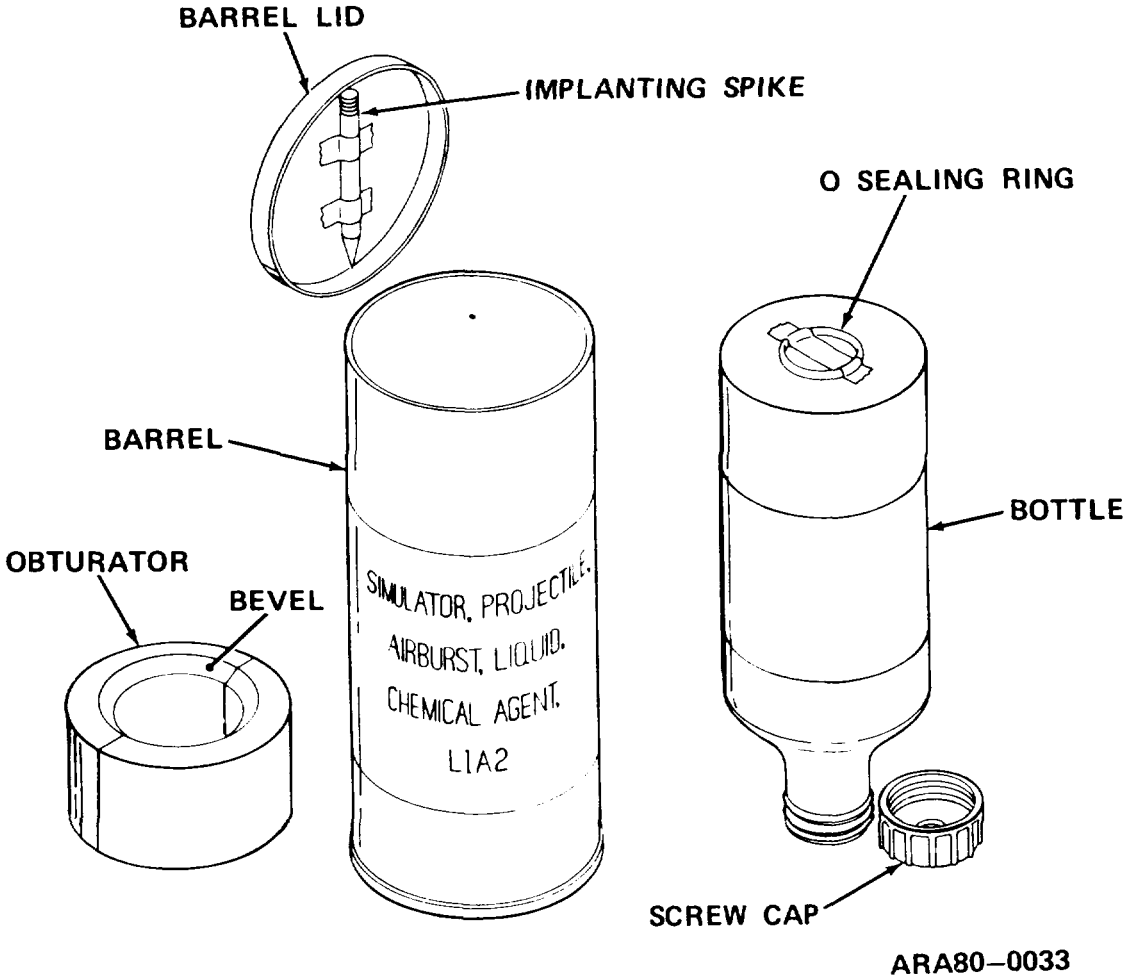
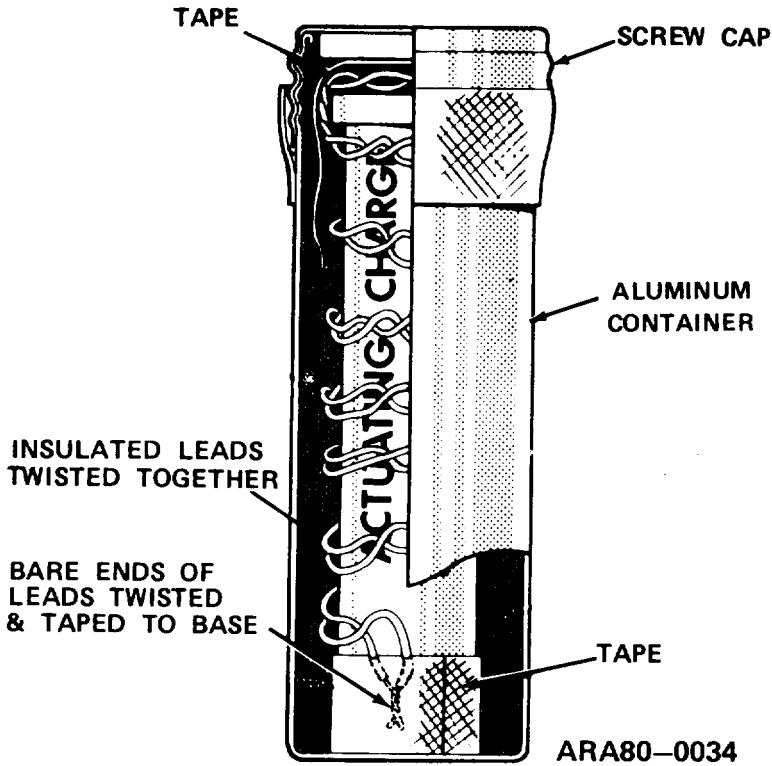
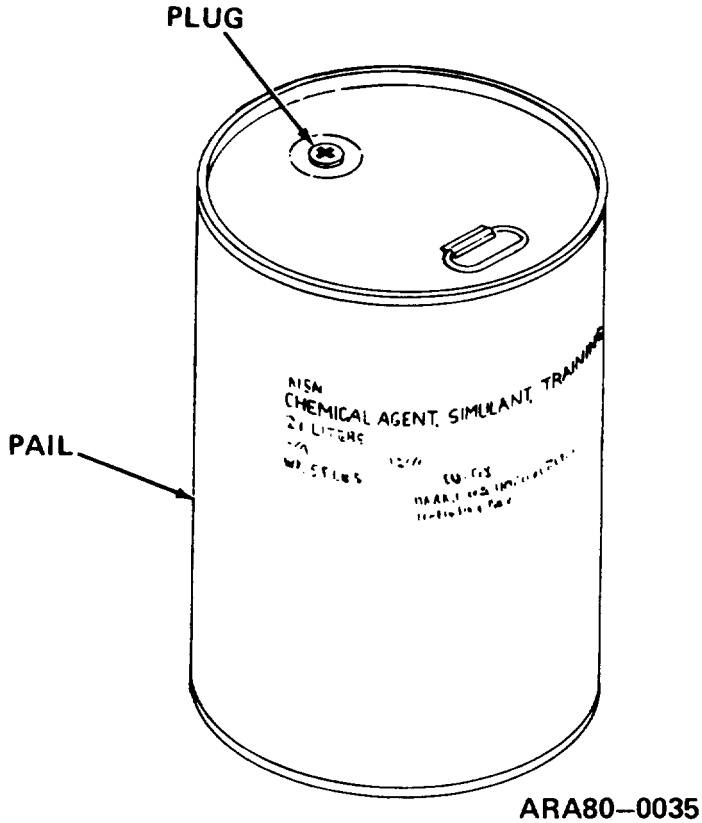
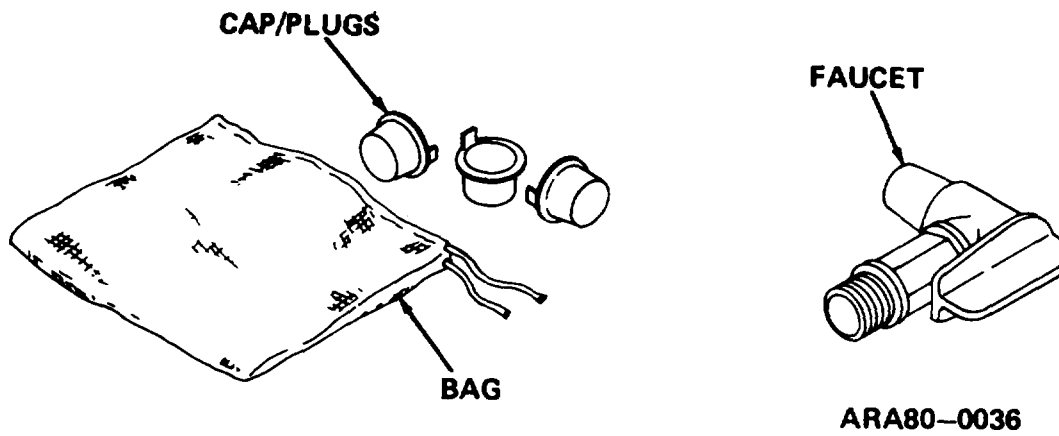

Figure 1-2. Projector Assembly.
Figure 1-3. Actuating Charge.
Figure 1-4. Chemical Agent Simulant and Pail.
Figure 1-5. Accessories (ARA80-0036).
a. *Projector Assembly.* The projector assembly (fig. 1-2) consists of:
(1) Barrel. Controls direction of bottle when fired. Has threaded bushing in center of base for implanting spike.
(2) Barrel Lid. Protects inside of barrel, and
(3) Obturator. A split cylinder located in bottom of barrel to prevent gases from escaping on firing.
(4) Implanting Spike. Is screwed into threaded bushing in base of barrel. Pushed into ground to ensure retention of barrel in vertical position.
(5) Bottle with Screw Cap. Holds the simulant and the actuating charge.
(6) O Sealing Ring. Seals the simulant in bottle when actuating charge is inserted in bottle.
b. *Actuating Charge.* The actuating charge (fig. 1-3), when in firing configuration and electrically charged, propels a simulant-filled bottle (fig. 1-2) into the air. A one-second, burn-through delay fuse sets off a burster charge. This ruptures the bottle in the air to produce a cloud of spray from the simulant.
c. *Chemical Agent Simulant.* Chemical Agent Simulant (fig. 1-4), composed of 90 parts by weight technical grade polyethylene glycol 200 and 10 parts by weight water, is a substitute for liquid chemical agents. It causes color changes in chemical agent detector paper in much the same way as liquid toxic chemical agents. The 5.5 gallons (21 liters) of simulant is contained in a 6-gallon pail. The pail has a threaded plug which is removed for installation of a faucet (fig. 1-5). The faucet is used to transfer simulant to projector assembly bottles (fig. 1-2).
(1) The cap/plugs (fig. 1-5) seal the bottles (fig. 1-2) when filled in an area away from launch site.
(2) The faucet (fig. 1-5) screws into the pail (fig. 1-4) when plug is removed. It is used to transfer simulant from pail to projector assembly bottles (fig. 1-2).
- (1) Use pliers to remove plug from pail (fig. 1-4). Cut bung seal with knife. Save plug.
- (1) Untape and remove barrel lid (fig. 1-2).
- (2) Remove bottle from barrel. Remove O sealing ring from bottom of bottle and tape it to inside of barrel lid.
- (4) Remove cap/plug from bag (fig. 1-5) and insert in neck of bottle (fig. 2-1). Replace screw cap and hand tighten.